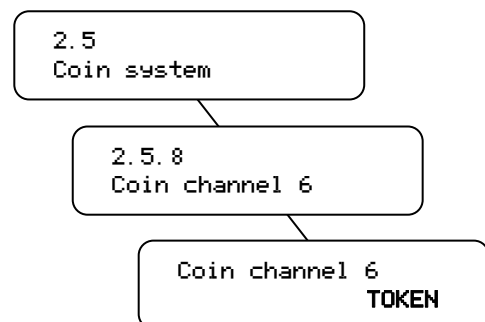

Fig. 23
4. **Service menu;** Change coin channel 6 (menu item 2.5 payment system) from € 2.00 into "TOKEN" (fig. 23).